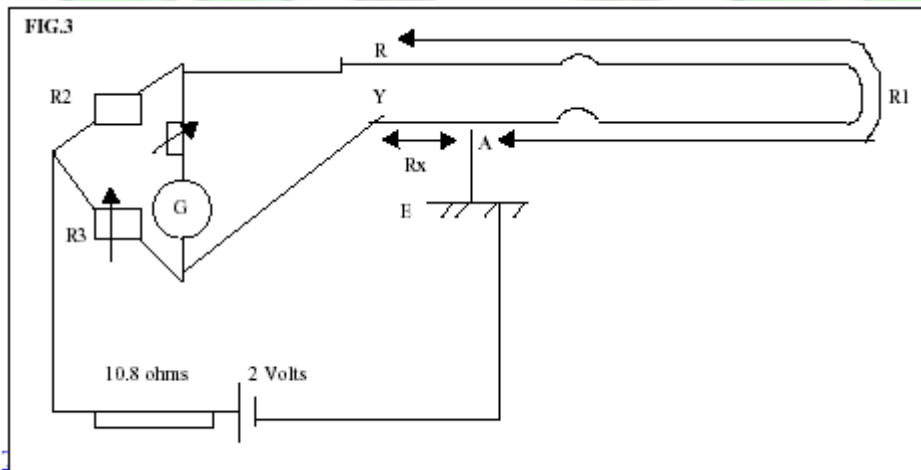

Fig. 10-3
- Find the resistance from the sending end to the fault. (Fig. 10-3) Use the resistance per meter, r to find the distance to the fault.